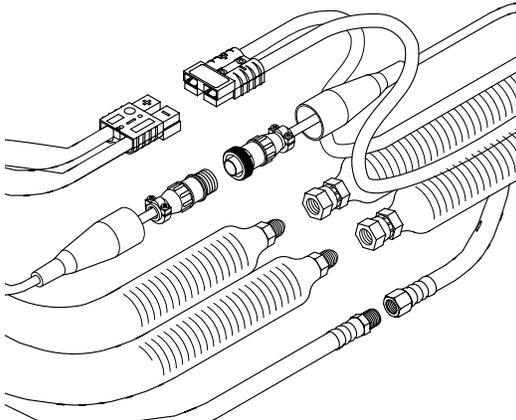

FIG. 12: Hose Connection (step a)
- a. Lay out hose assemblies end-to-end as shown in FIG. 12. A- (isocyanate) hoses are RED. B- (resin) hoses are BLUE.